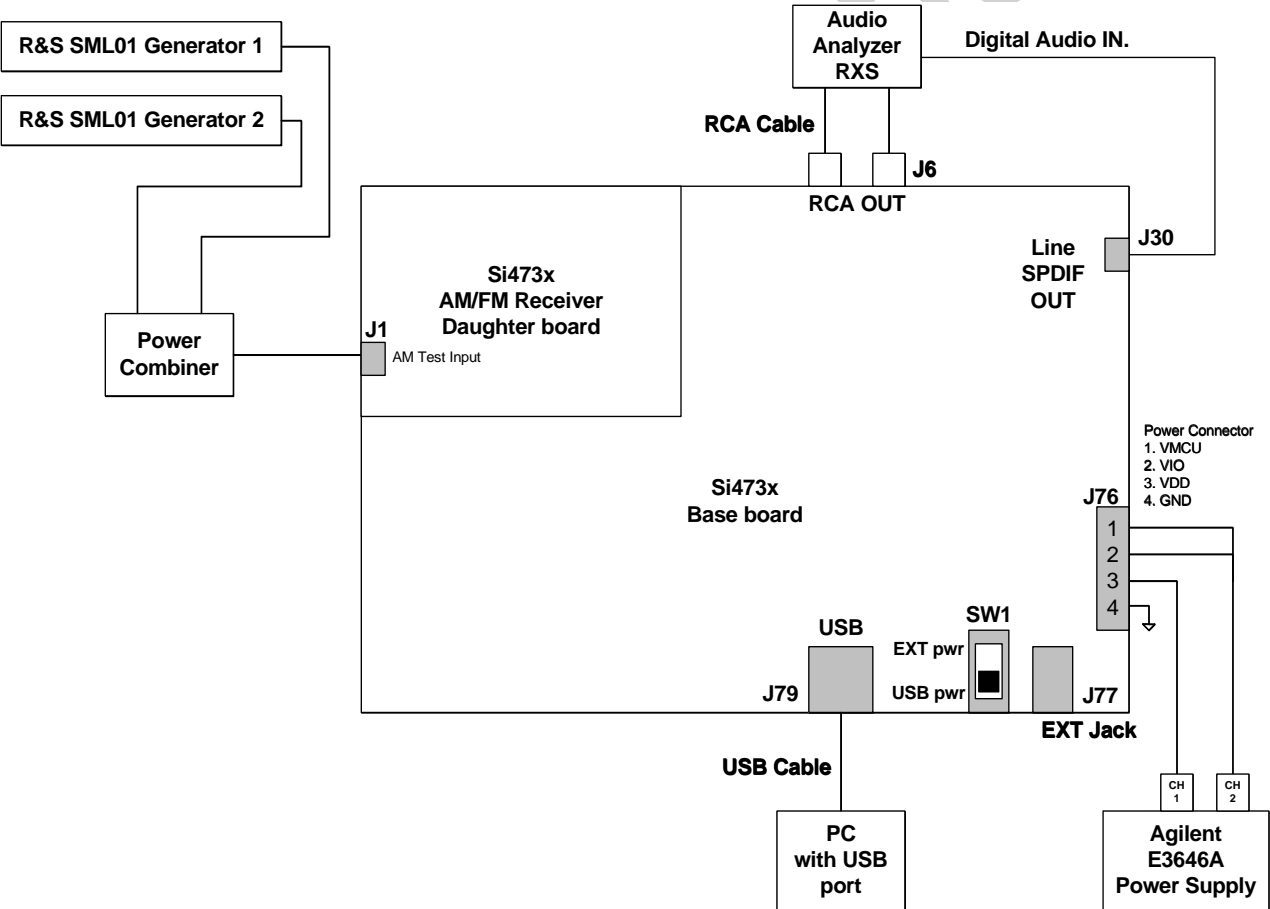
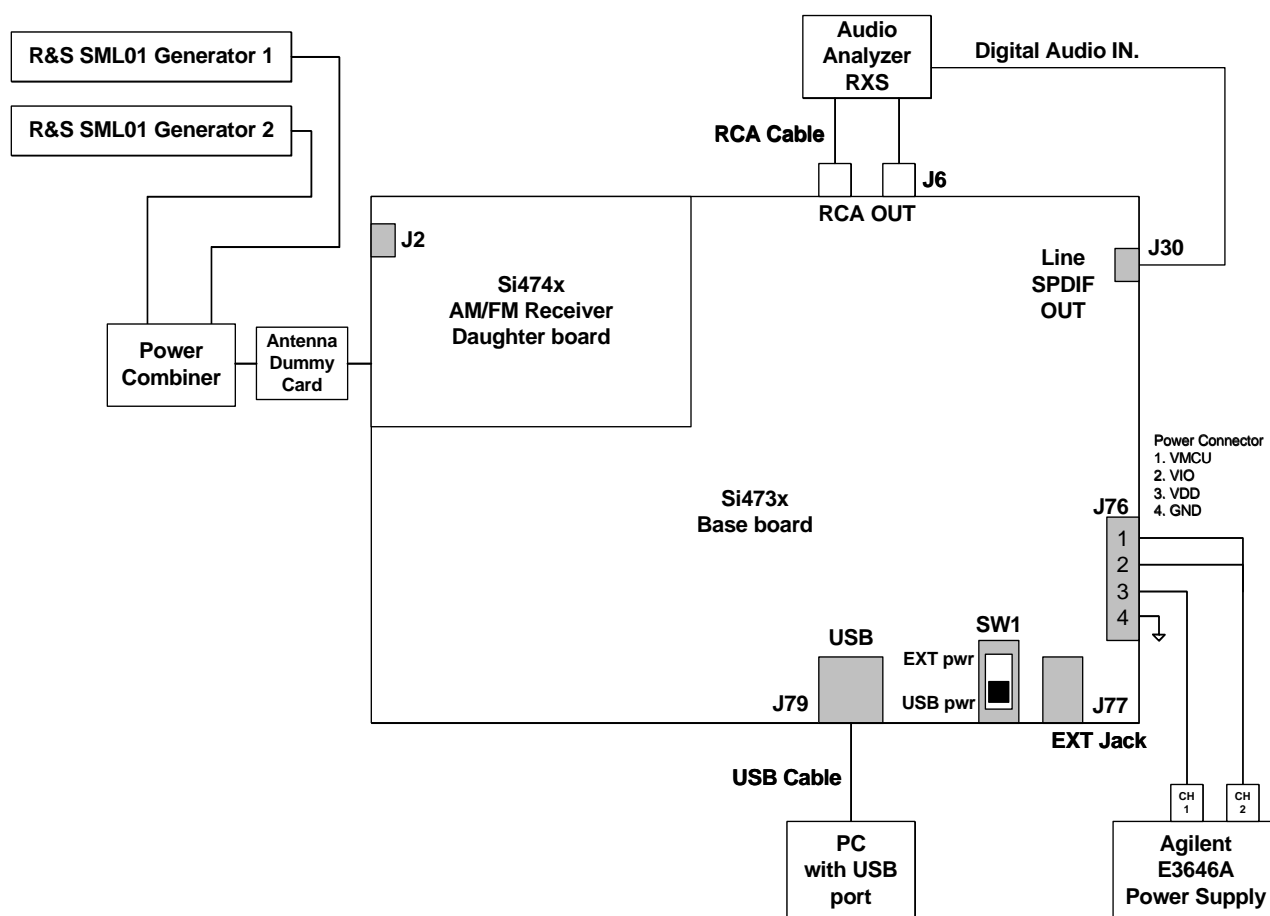

Figure 6. Si473x AM Tuner Setup
Figure 7. Si474x AM Tuner Setup
This section covers testing the AM/Shortwave/Longwave specs of the Si473x/4x receivers. Table 4 provides a summary of tests and equipment, and Figure 6 and Figure 7 show the instrument configuration used to generate the test report for AM testing of each EVB.
1. Connect test equipment as shown in Figures 6 or 7.
1. Connect test equipment as shown in Figures 6 and 7.
1. Connect test equipment as shown in Figure 6 or Figure 7.